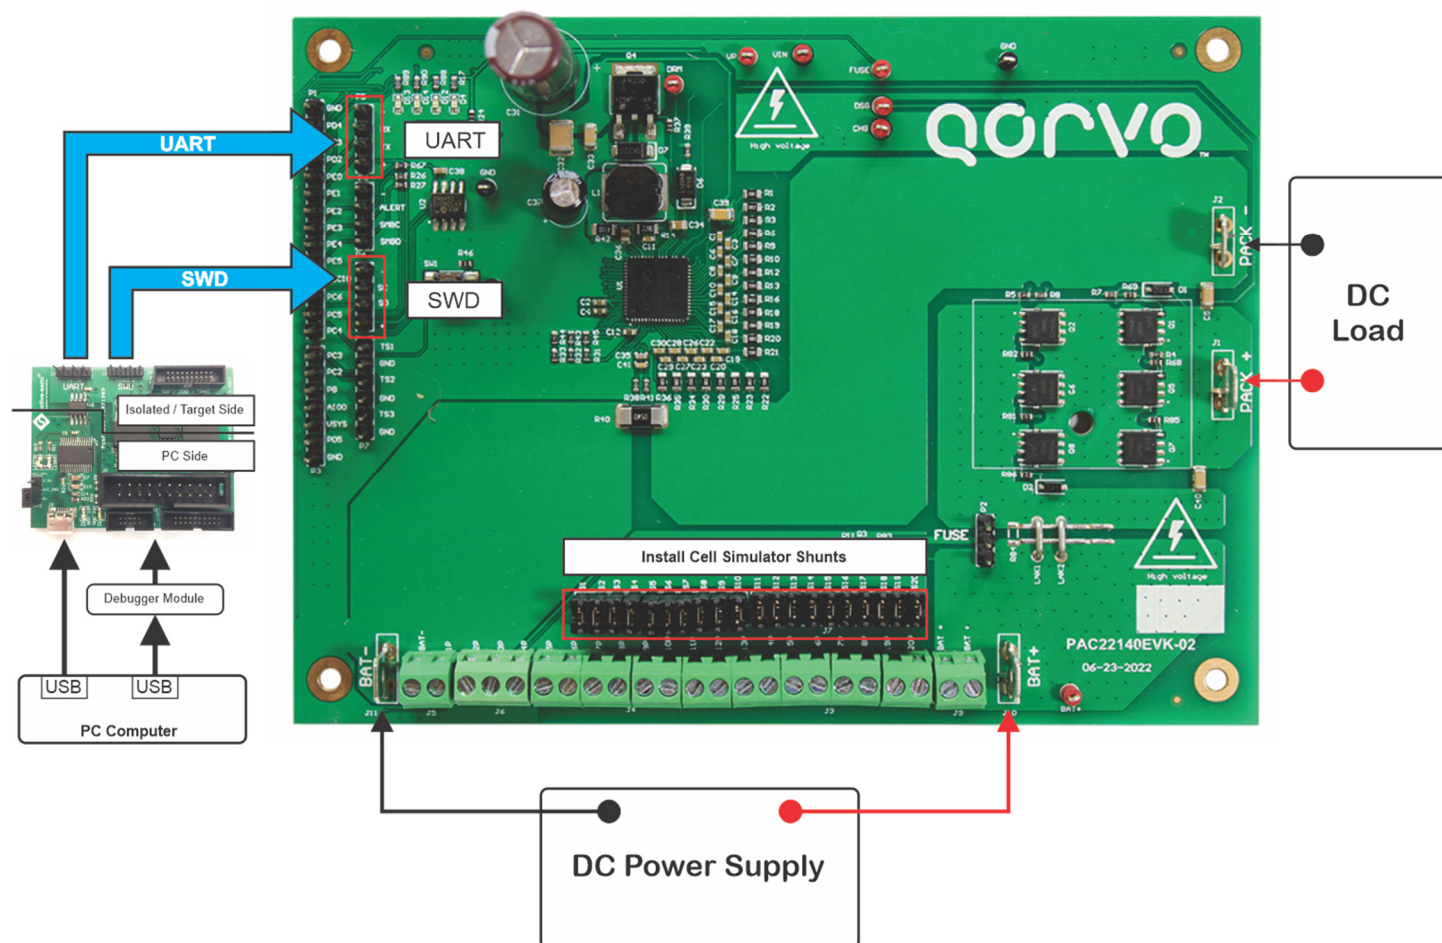

Figure 5: Evaluate PAC22140EVK with Load Current
5. With the configured PAC22140 and the FETs enabled, discharge current can be demonstrated by adding suitable resistor, or DC load, at PACK terminals as shown in Figure 5